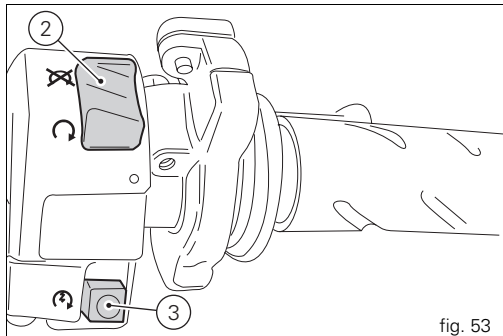

fig. 53
- 3) Make sure that the stop switch (2, fig. 53) is in the  RUN position, then press the starter button (3, fig. 53).